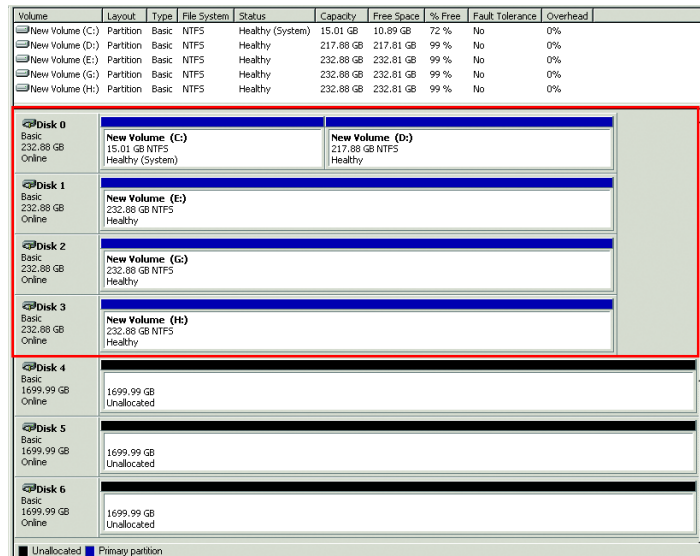

Figure 19. Drives Converted to Basic Disk
11. A blue status bar represents formatted disks with active partitions and a black status bar represents unformatted disks (unallocated). For example, Figure 19 shows four formatted disks (blue status bar), five partitions, and three unformatted disks (black status bar). Make a list of the original active partitions (blue status bar). This list will be needed later in the procedure when you are instructed to delete the original active partitions.